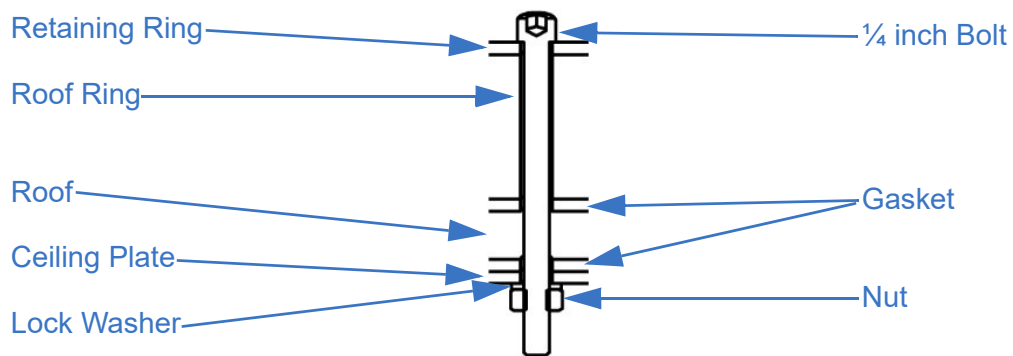

Figure 5-19 Fasten Assembly Together
5. Fasten this assembly (Figure 5-19) together using:
- a. (8) ¼ Inch (M6) Bolts
- b. (8) ¼ Inch Lock Washers
- c. (8) ¼ Inch Nuts